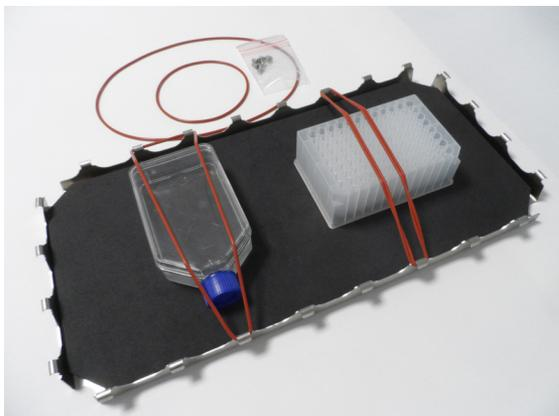

Figure 94: Utility Tray with Containers Installed and O-Rings
1. Place utility tray ② on platform.
3. Fasten the utility tray ② using the screws ③ supplied with the utility tray.
4. Place rubber mat ① in tray ②.
5. Place bottles on the tray and secure with the O-rings ④ supplied, as shown in Figure 94.